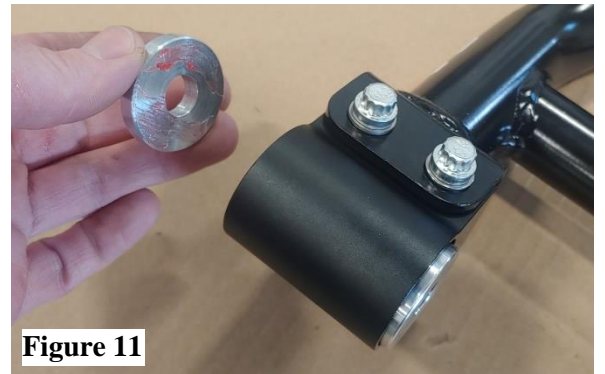

Figure 11
10. Insert one aluminum spacer on each end of the bushing housing with a dab of grease on each spacer. **(Figure 11)** The grease will help hold these spacers in place while installing the arm to the crossmember.